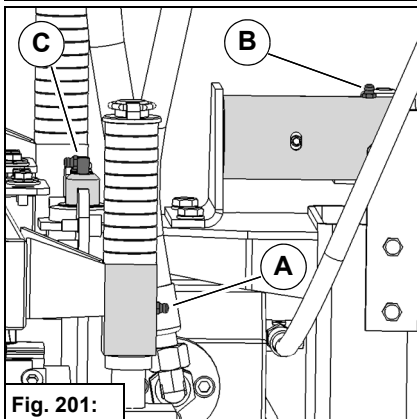

Fig. 201:
- Left/right supporting wheels (x2) **Fig. 201-A**
- Supporting tube on the coupling triangle (x1) **Fig. 201-B**
- Bearing bolt (x2) **Fig. 201-C**